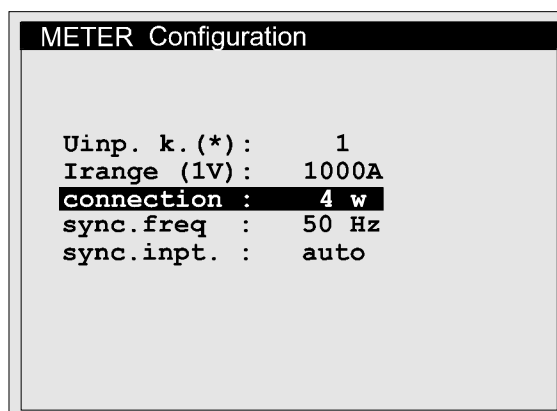

fig. 19: Meter Configuration Menu
**The actual connection scheme must be defined in METER Configuration menu (see fig 19 below).**